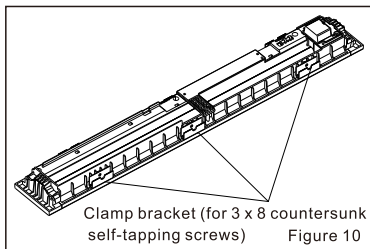

Figure 10
(1) Installation of keel / electrical beam: Take out the grille and keel bracket, and use 3x8 countersunk self-tapping screws to fix the keel bracket to the grille. (Figure 10) Connect the display board connector to the corresponding connector of the fan unit, and align the grille air outlet with the air outlet on the fan unit. The two sides of the grille are buckled into the keel or electrical beam (Figure 11, Figure 12, Figure 13).